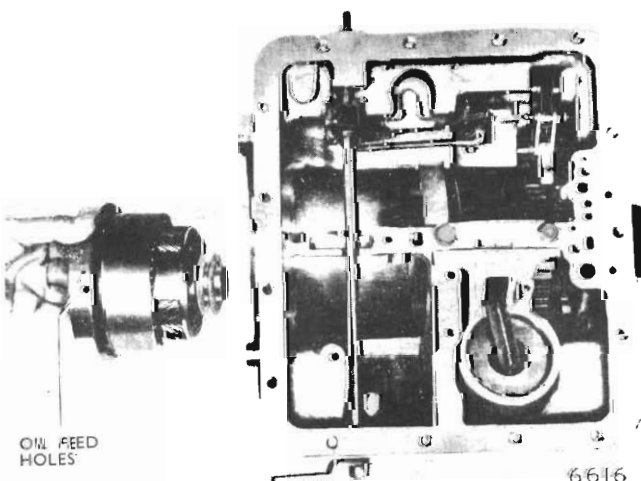

Fig. 46 — Installing intermediate support and planet gear assembly with needle thrust bearing and plate washer
(1) Install the rear band with the ends together to facilitate installation (with the abutment end to casing abutment) then position against the annulus gear.
**Intermediate Support and Gear Assembly (Refer Fig. 46)**
(1) Insert the over-running clutch sprag assembly into the carrier assembly race (flange outwards) whilst holding the sprag assembly spring-loaded (anti-clockwise).
(2) Install the intermediate support into the over-running clutch, whilst turning the support anti-clockwise to engage sprags. Check operation of clutch and carrier assembly, then install the 2.052" diameter thrust bearing and washer (lip towards output shaft) over the gear carrier journal.